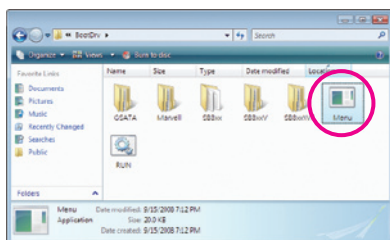
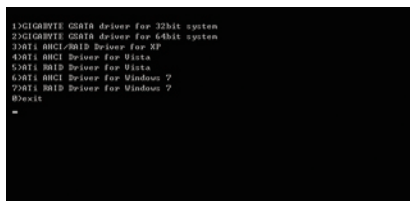

Figure 3
Figure 4
- 2: From your optical drive folder, double click the **Menu.exe** file in the **BootDrv** folder (Figure 3). A Command Prompt window will open similar to that in Figure 4.
- 3: Insert the blank formatted disk. Depending on the operating system to be installed, select the controller driver by pressing the corresponding letter from the menu and press <Enter>. For example, from the menu in Figure 4,